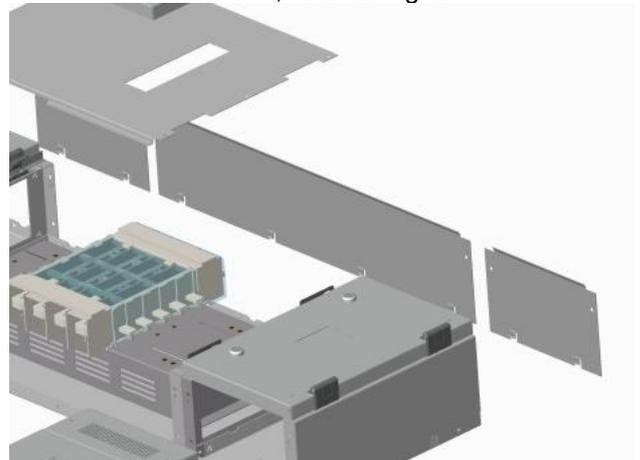

Fig. 8
- To refit the door, front shield & the gland plate on to the Add-On unit, refer to Fig. 8.